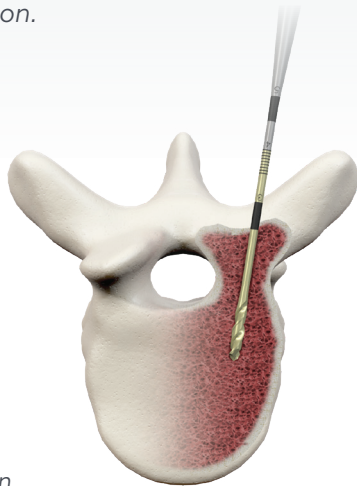

Figure 3a
- Using the Universal Power Handpiece with Universal Power Small AO Attachment secured, insert either the Vital Power 2.4 mm Pilot Drill or the Vital Power 2.0 mm Standard Drill to the attachment, to create a pilot trajectory that follows the pedicle canal. These drills are recommended for initiating the pilot trajectory, as they allow the surgeon to use tactile feedback, to find the pedicle channel (**Figures 3a, 3b**).